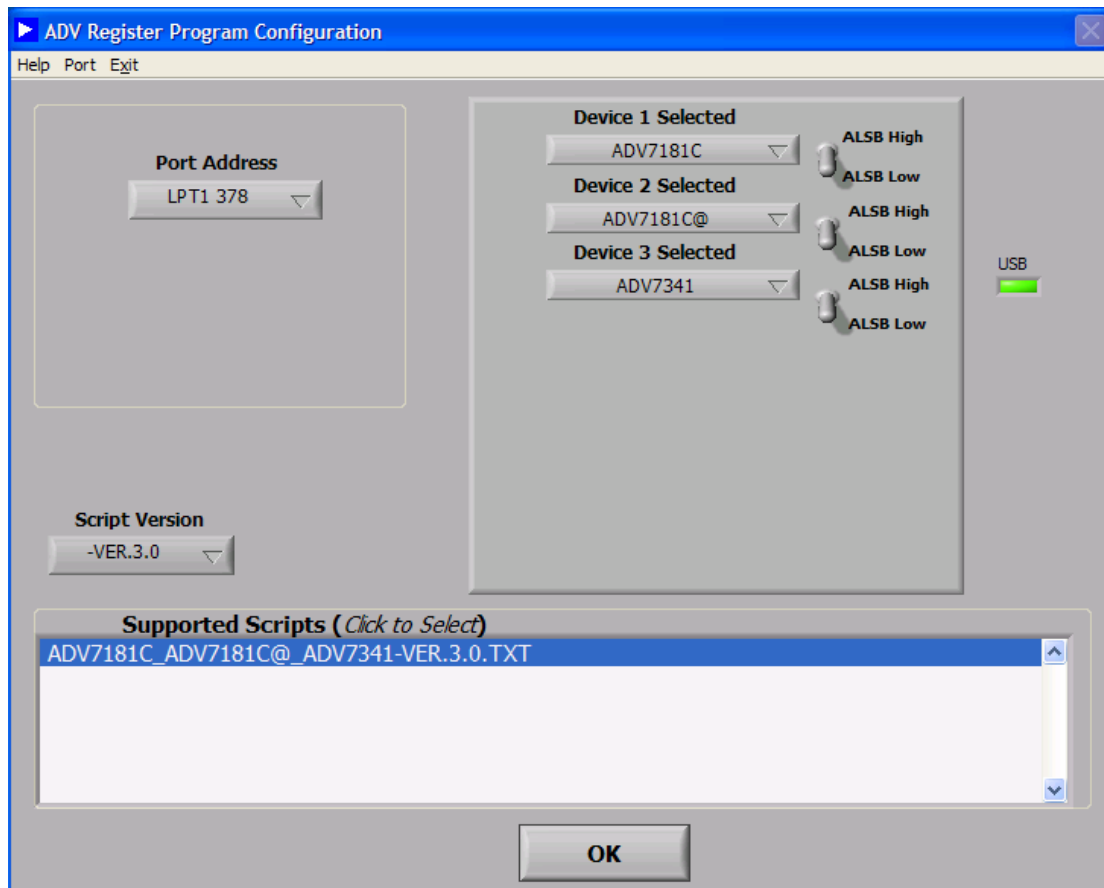

Figure 1. ADV Register Software Configuration
The ADV Register Program Configuration screen appears, as shown in Figure 1.
4. Ensure the options are set as shown in Figure 1, and click on the OK button. When the register control software starts, it firstly initializes all the selected devices and then loads the reset defaults for each device. I²C control and reset signals are connected to the evaluation board through the USB cable. This cable should be connected to the evaluation board before the application software is started.